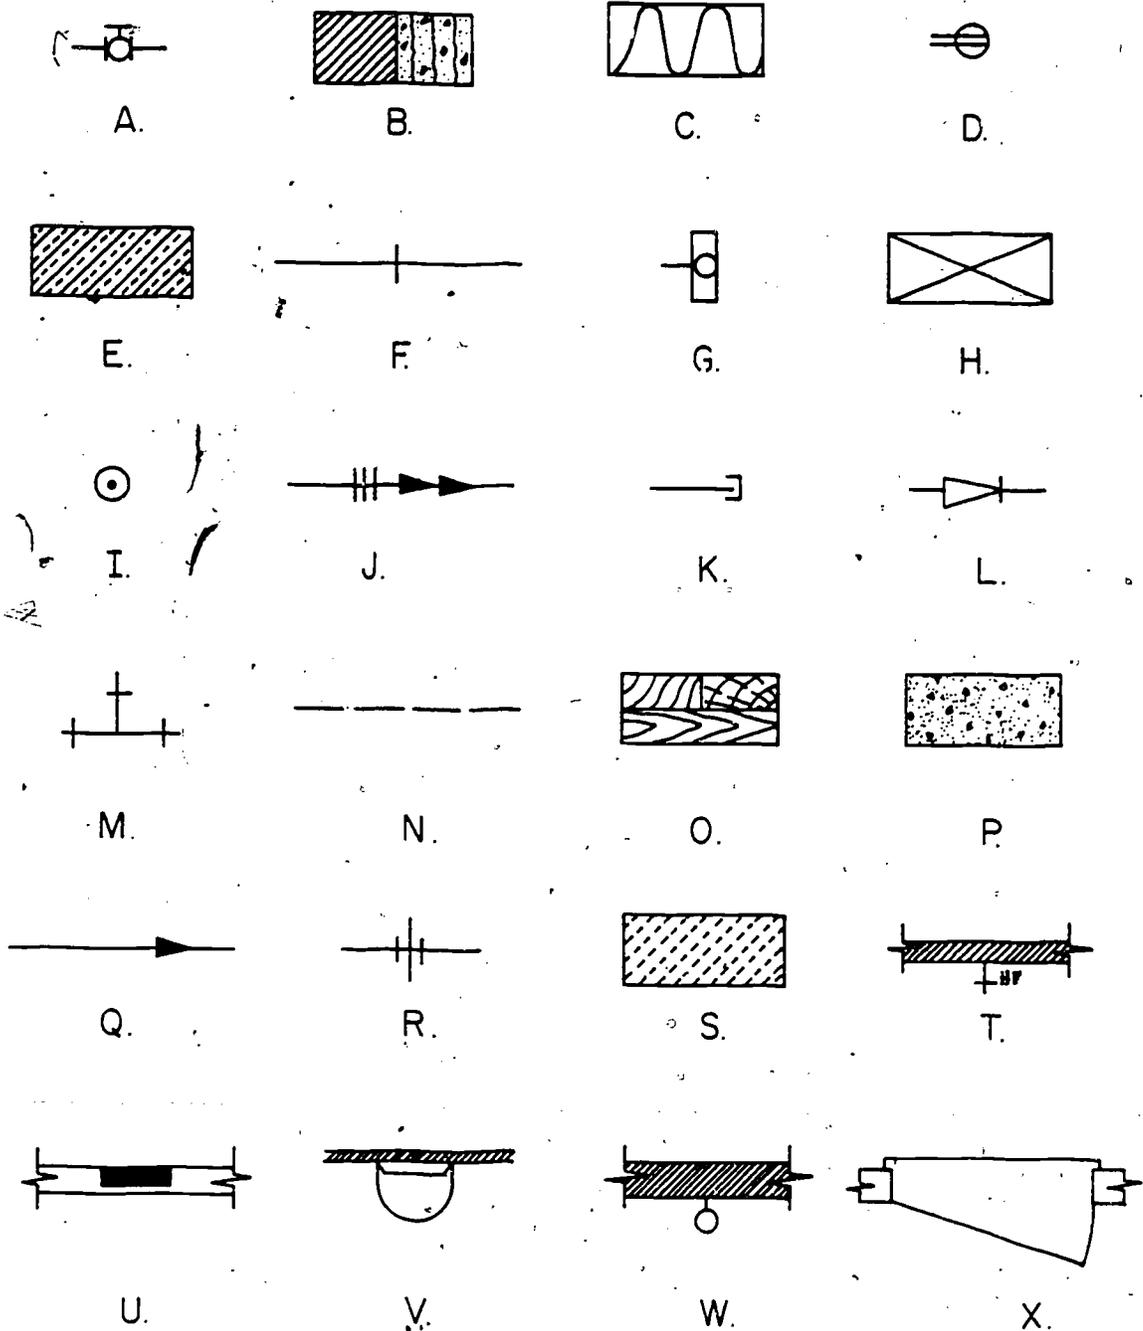

Figure 1-7. Symbols used on drawings and blueprints (objective 405, exercise 1).
1. For this exercise, refer to figure 1-7, "Symbols used on drawings and blueprints." In the following manner identify those symbols: Take the letter under each symbol